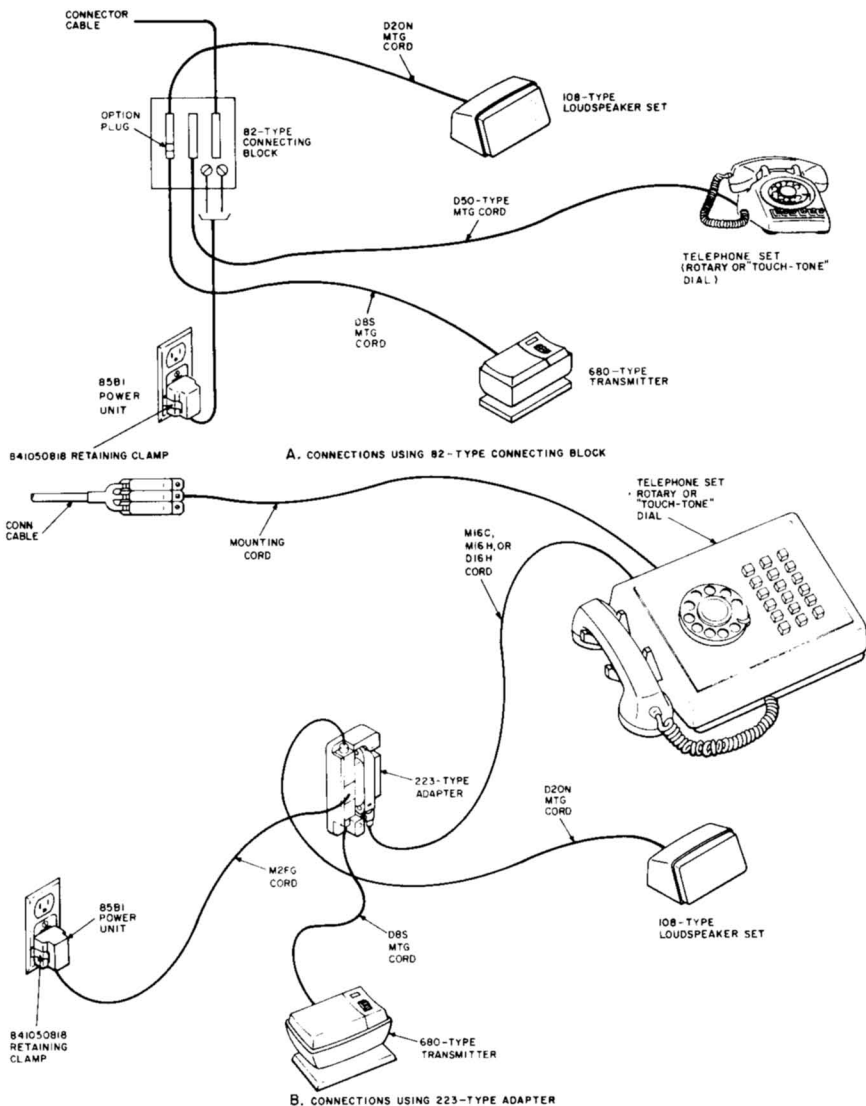

Fig. 1—Typical Arrangements of 4A Speakerphone System
**2.23** A retaining clamp (841050818) (Fig. 1 and 2) will be shipped with the 85B1 power unit.